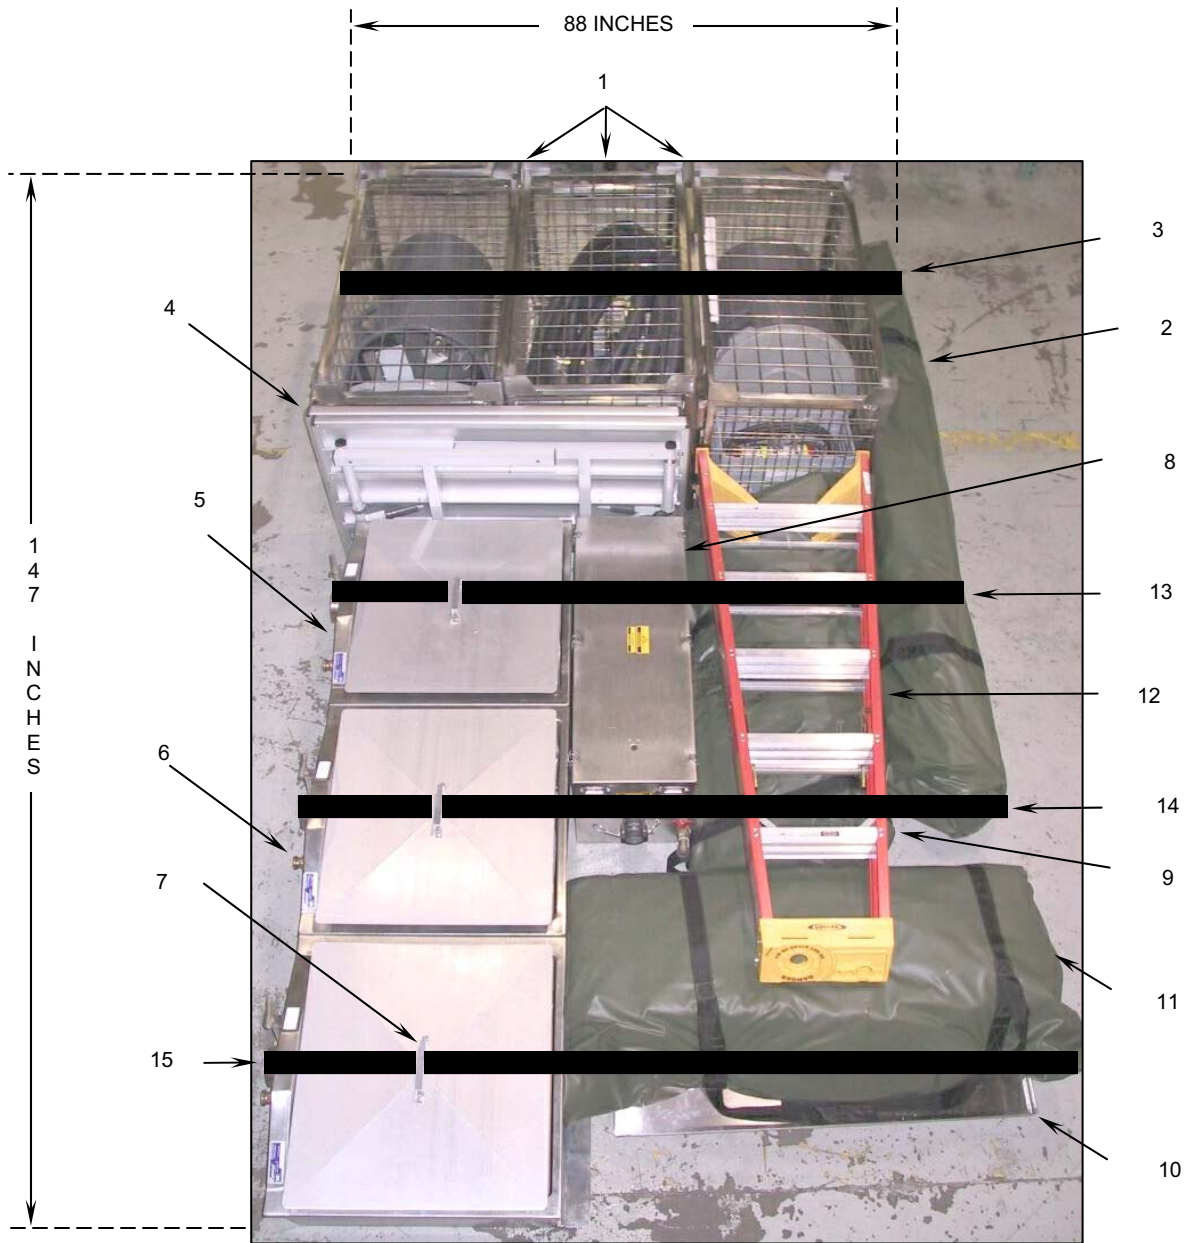

Figure 48. FSC-2 Transport Vehicle Loading Layout.
- a. Load the three packed storage rack assemblies (**Figure 48, Item 1**) side-by-side in the forward most point of the vehicle bed and as far over to the driver's side of the bed as possible.
- b. Load the tent poles inside their storage bag (**Figure 48, Item 2**) next to the storage rack assembly at the passenger side of the vehicle bed.
- c. Secure the storage rack assemblies and the tent poles in their storage bag with a strap (**Figure 48, Item 3**) from one side of the vehicle to the other.
- d. Load the 2 work tables (**Figure 48, Item 4**) on edge, with the table tops facing each other, in front of the storage rack assemblies and as far over to the driver's side of the bed as possible.
- e. Load the three packed sink assemblies (**Figure 48, Item 5**) side-by-side along the driver's side of the vehicle bed with the drain valves (**Figure 48, Item 6**) facing the side of the vehicle and the sink cover handles (**Figure 48, Item 7**) oriented parallel to the side of the vehicle.
- f. Load the grease separator (**Figure 48, Item 8**) next to the first two packed sink assemblies with the grease separator outlet/drain fittings pointing toward the work tables and the inlet fitting and grease drain valve pointing toward the rear of the vehicle.
- g. Load one of the tent fabric sections in its storage bag (**Figure 48, Item 9**) parallel to the grease separator, between the grease separator and the tent poles in the tent pole bag.
- h. Load the drain table (**Figure 48, Item 10**) flat on the bed of the vehicle, with its folded legs down, in front of the grease separator, the tent fabric bag, and the tent pole bag.
- i. Load the second tent fabric section in its storage bag (**Figure 48, Item 11**) on top of the drain table.
- j. Load the step ladder (**Figure 48, Item 12**) on top of the two tent fabric bags with the bottom of the ladder against the end of the right storage rack assembly.
- k. Secure the loaded equipment from one side of the vehicle to the other with three straps (**Figure 48, Item 13**) and (**Figure 48, Item 14**) and (**Figure 48, Item 15**) so that one strap is threaded through the handle on each of the three sink covers.